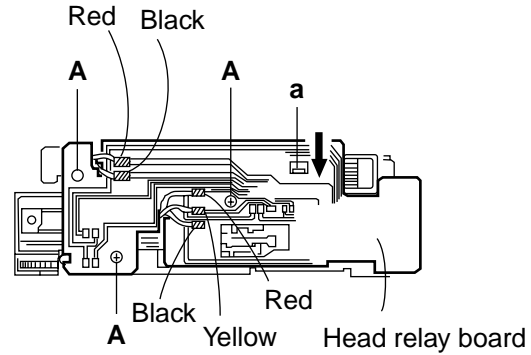

Fig. 1
■ Removing the head relay board (see Fig.1)